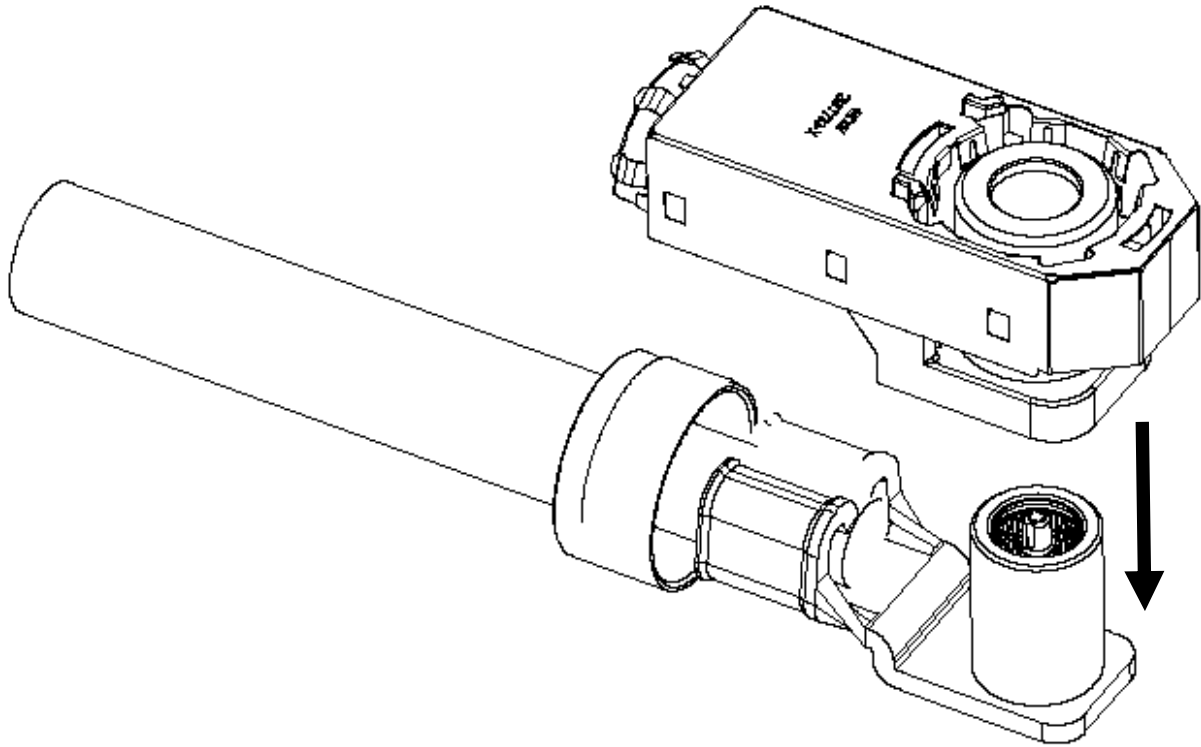
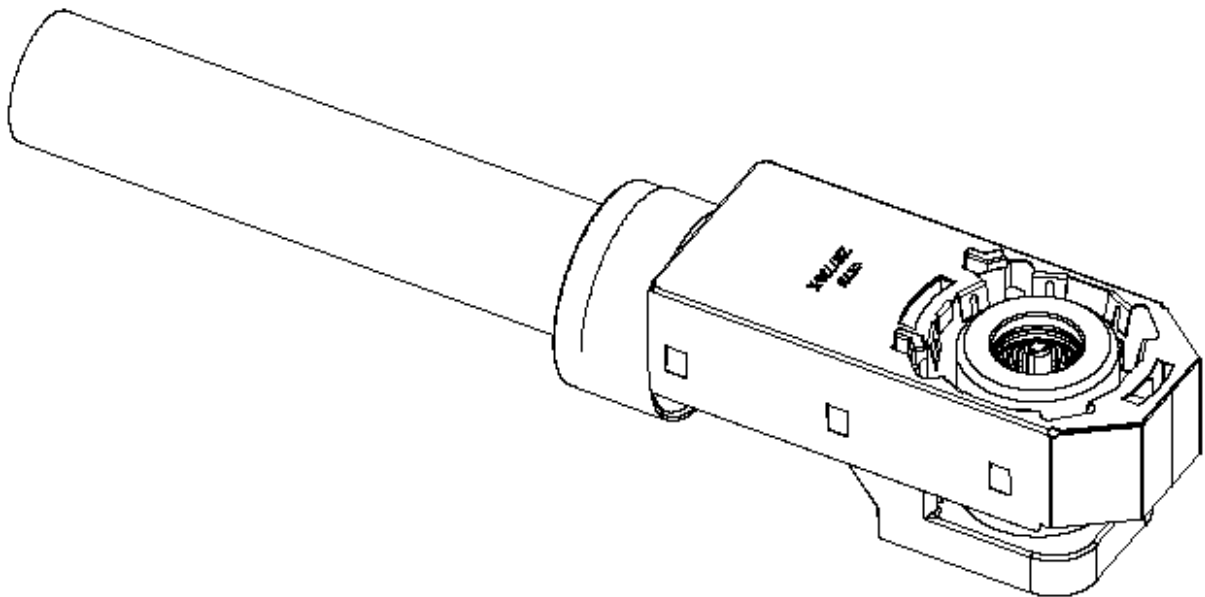

Figure 6: Slide lower insert assy.
Figure 7: Slide lower insert assy.
B. Slide lower insert assy. over terminal assy. as shown in figure 6 until it stops against the terminal as shown in figure 7.